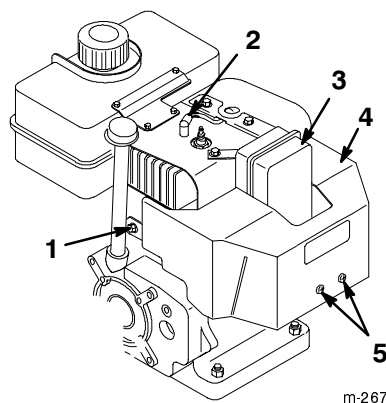

Figure 21
If you operate the engine when the air temperature is above 40°F (4°C), remove the carburetor heater box (Fig. 21).
1. Disconnect the wire from the spark plug and make sure that the wire does not contact the plug (Fig. 21).
4. Remove two Phillips screws, two hex head screws, and one lock washer that secure the carburetor heater box in place (Fig. 21).